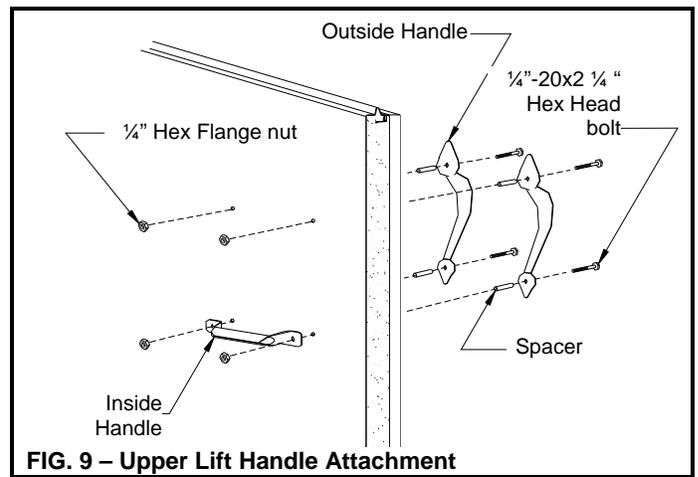

FIG. 9 – Upper Lift Handle Attachment
**Step 10:** Attach each vertical ornamental handle (outside) and one steel horizontal roll grip handle (inside) to the door using two 1/4"-20x2 1/4" black painted hex head bolts, and two 1/4" hex flange nuts. Use a set of hex head bolts and hex nuts to fasten the vertical handles to the door through the remaining holes. The inside handle may be matched with either set of holes so long as it is no closer than 4" to the top or bottom of the section (See Fig. 9).